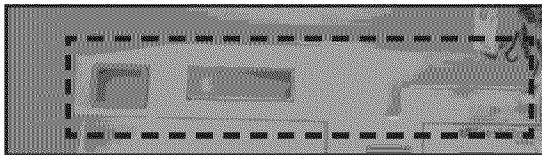

FIGURE 19
22. Peel remainder of paper backing off new gasket after positioning behind top of tower. See *Figure 19*.